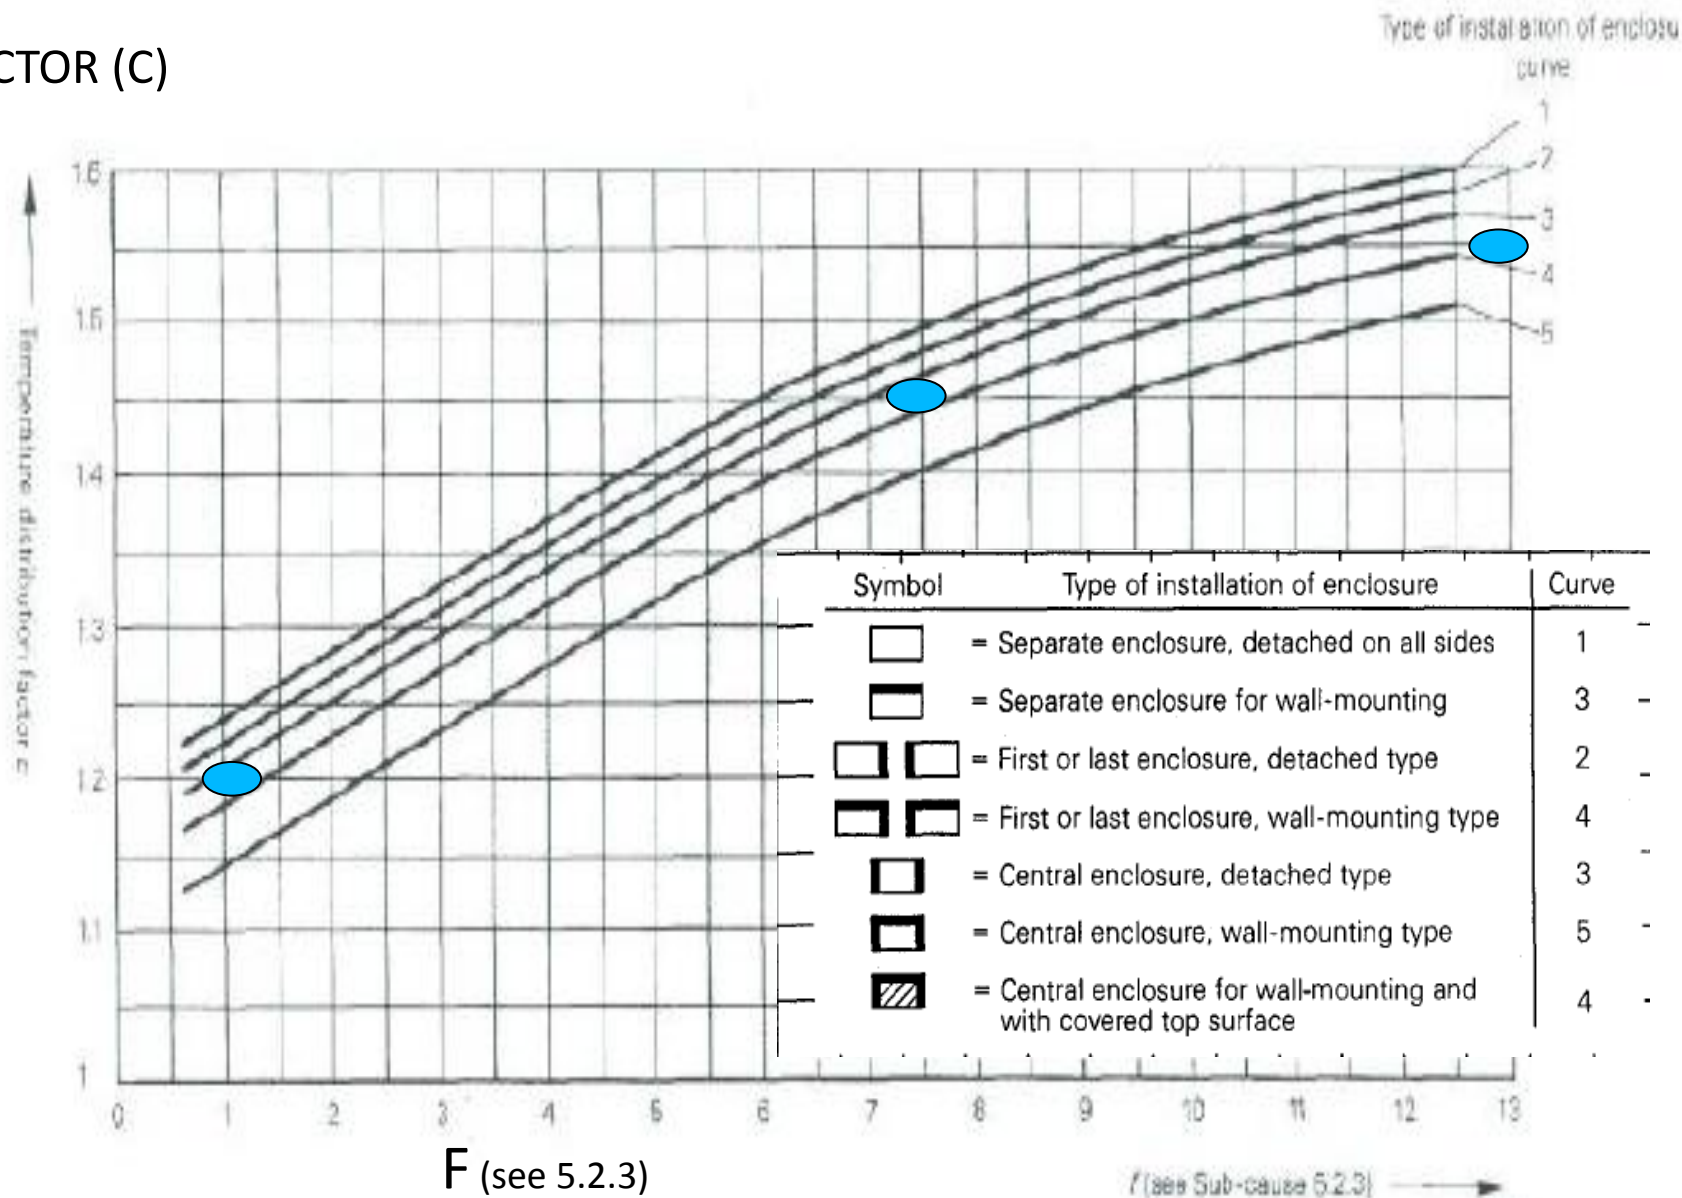

FIG. 4. — Temperature distribution factor c for enclosures without ventilation openings and with an effective cooling surface $A_e > 1.25 \text{ m}^2$.
- Type of installation (Figure 4)
Factor F to calculate C in figure 4
The factor c from Figure 4, page 25, depends on the type of installation and the height/base factor f , where: